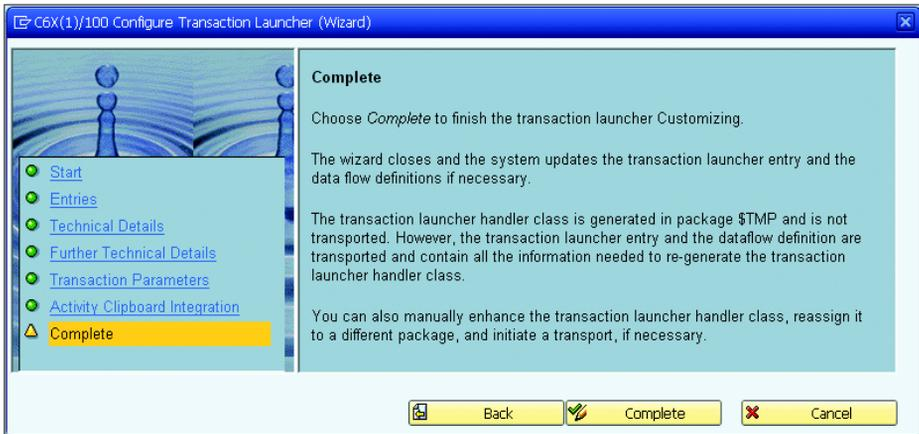

Figure 8.51 Transaction Launcher Wizard Complete
6. Complete the Transaction Launcher Wizard, as shown in Figure 8.51.